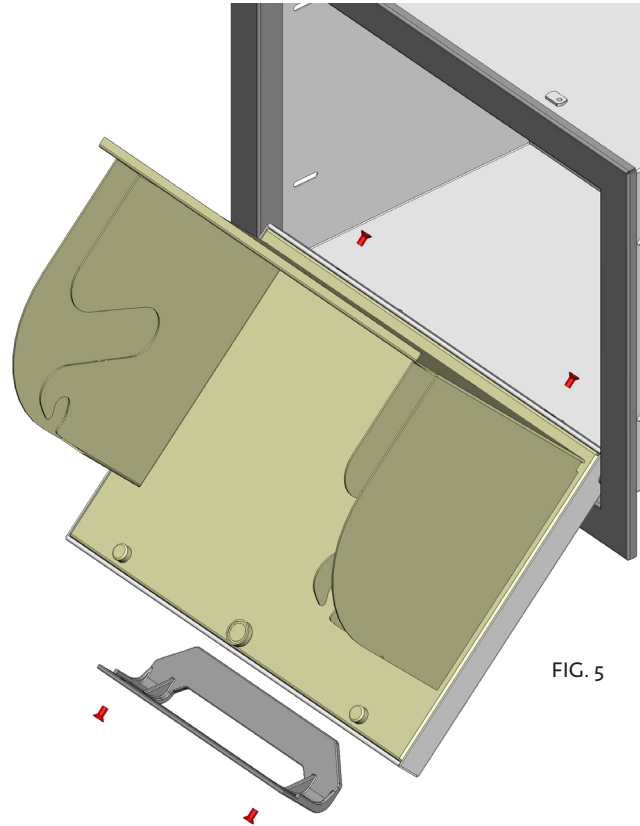

FIG. 5
2. Reach inside to remove 2 screws at rear edge of door, then 2 screws and handle. The entire inner panel with towel holder walls will come out (Fig. 5).